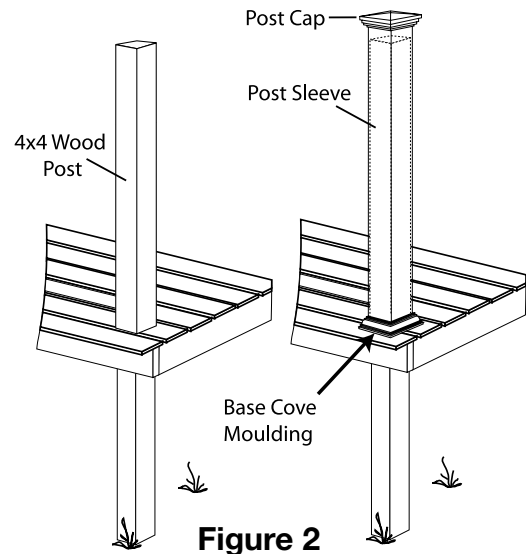

Figure 2
Use the post sleeve method to install railing directly to a wooden 4" x 4" (10 cm x 10 cm) deck post. This is ideal for new deck construction methods that attach the rim joist directly to the deck support posts, where wood 4" x 4" (10 cm x 10 cm) deck support posts extend through the deck serving as rail posts (Figure 2), or in those code compliant applications where the use of existing 4" x 4" (10 cm x 10 cm) wooden posts are desired.
6. After decking is installed, slide post sleeve over the wood 4" x 4" (10 cm x 10 cm) post (Figure 2).